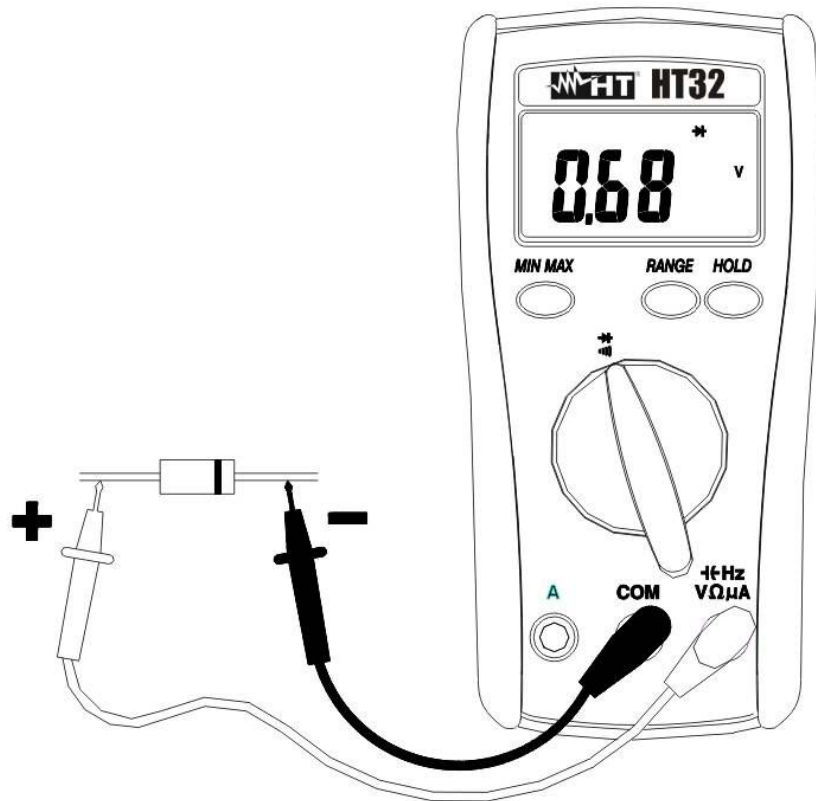

Fig. 8: Diode test and continuity test
2. Insert the test leads into the jacks, the red plug into \rightarrow HzVΩμA jack and the black plug into **COM** jack (Fig. 8).